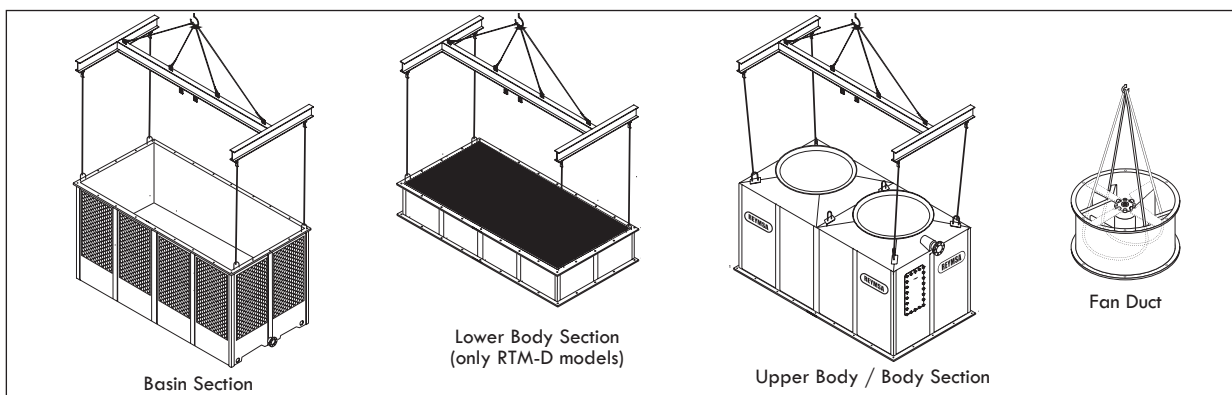

Figure A-53: Crane lifting for a modular tower (RTM)
- B. After assuring the equipment is received in proper condition, proceed to unload it from the transportation vehicle, piece by piece, with a crane (using a spreader bar) or forklift of the appropriate capacity, see Figure A-53 for an example.
- C. For crane lifting, it's recommended to use a minimum lifting angle of 60° between the strap and the horizontal. Each section of the Tower has U-bolts for lifting. Place the straps through the U-bolts (as shown in Figure A-53) and use a spreader bar to avoid damage on the upper edge of the Tower. Don't balance until tensing the straps.